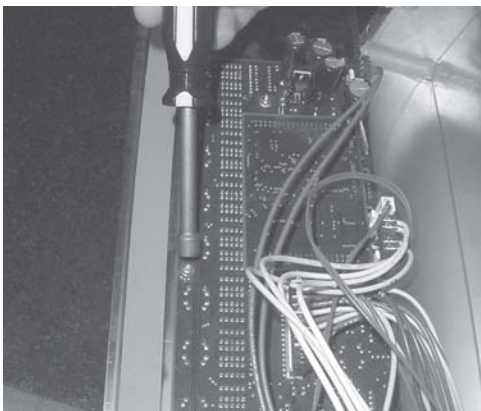

Figure 3-38
5. Using 5/16" socket, remove the 8 nuts securing the PC board and remove board. Figure 3-38.